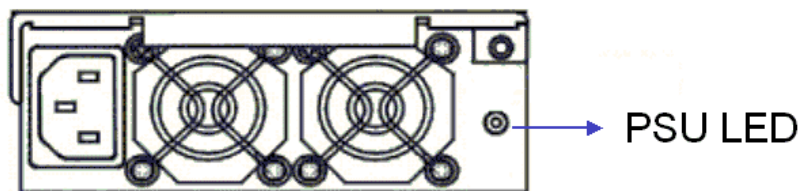

Figure 3-6: PSU Module Rear LED
2. *If a new battery module has been charged for over seven (7) hours and this event is issued, you may remove and re-install the battery module. An empty battery module may take more than 7 hours to be fully charged. There is a timer embedded with the charger, doing so can reset the timer. Charging will resume automatically.*
Each PSU module has one (1) LED located just above the power switch and just below the retention screw to indicate the operational status of the PSU module. (See **Figure 3-6**) Please refer to **Table 3-7** for PSU LED definitions.